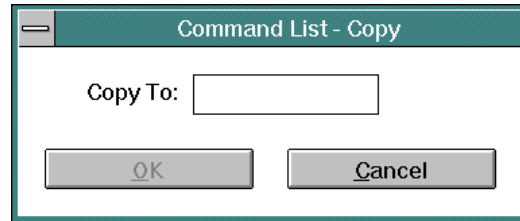

Figure 87. *Command List - Copy Dialog Box*
- **Copy List** - When a list item is selected (highlighted) and the *Copy List* button is clicked, the *Command List - Copy* dialog box appears (Figure 87).